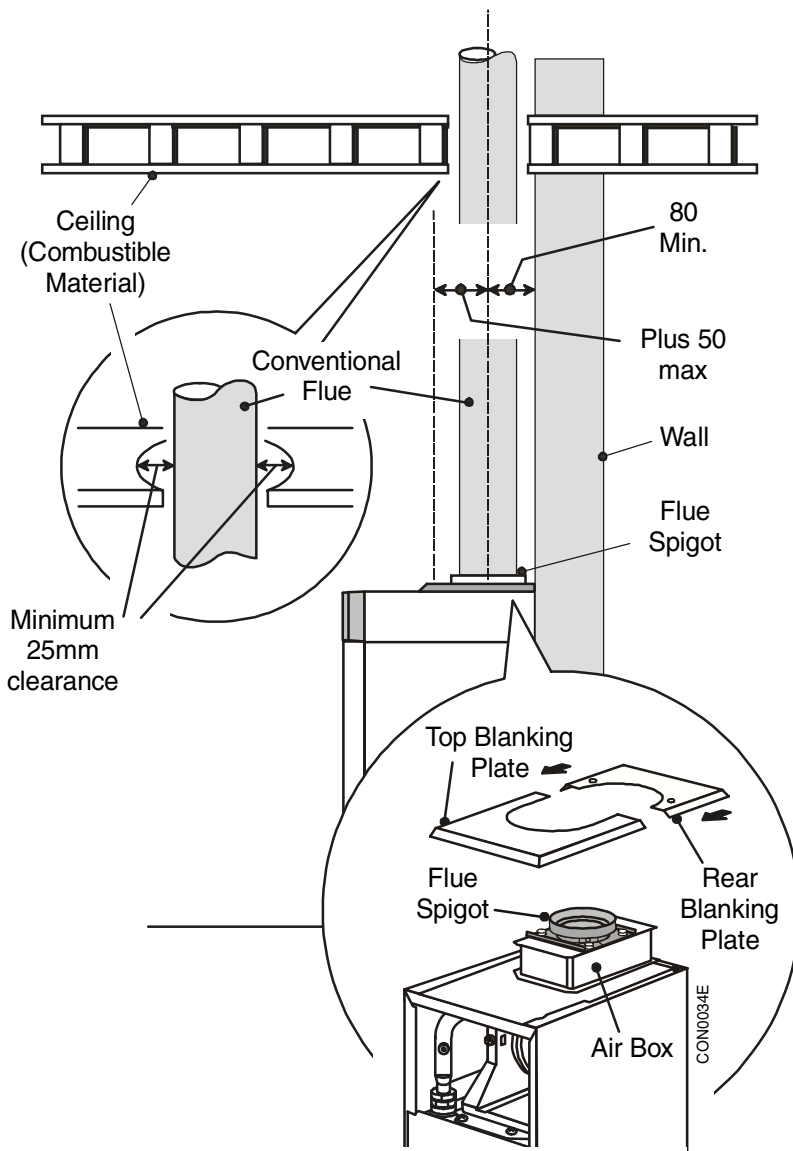

Fig. 13
6. Re-fit the flue spigot as shown in Fig. 13.
- Determine dimension X +20 mm See Fig.13.